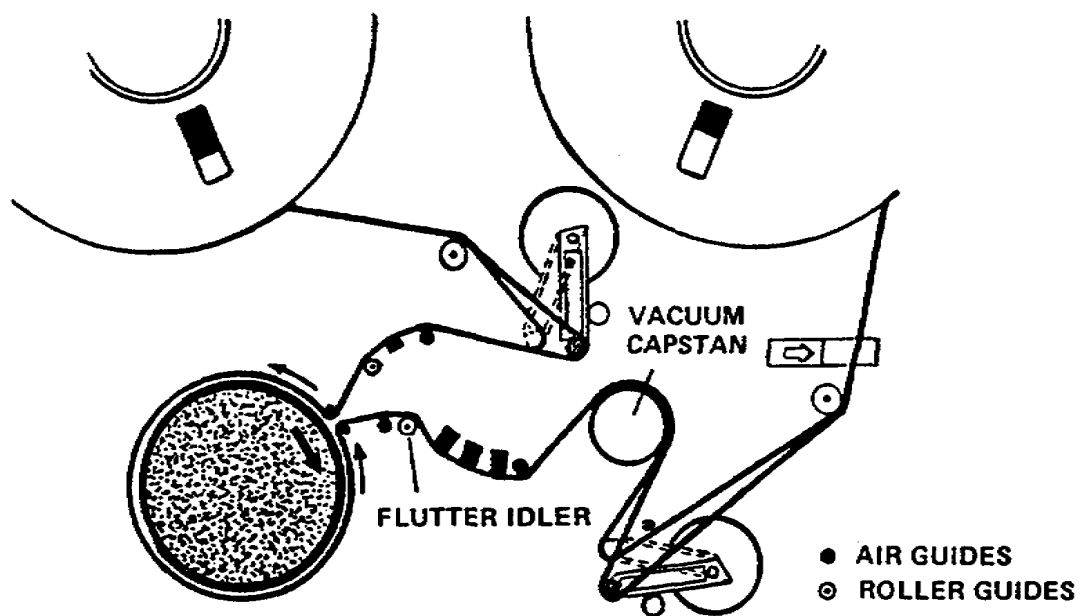

Figure 2-1. Helical scan, tape transport
1. The tape is transported from supply reel to takeup reel at a fixed rate of speed, determined by the capstan drive speed. This speed will also vary between different pieces of equipment. On the transport, the tape is held closely in alignment by guide rollers (cone-shaped or inverted cones (figs 2-1 and 2-2), or other mechanical devices so that it will not shift vertically during transport.
a. The location of the capstan will vary from manufacturer to manufacturer and therefore, may be located either prior to the tape contacting the head drum assembly, or after the head drum assembly, or both (figs 2-1 and 2-2). In any case, it will meter the tape past the head drum assembly.
(1) The combination of the capstan and the reel drive holdback tension works together in a designed electromechanical combination to maintain proper tension on the tape to keep the tape taut against the head drum assembly and in good physical contact with the rotating video head.
(2) Both the takeup torque adjustments and holdback tension adjustments require checking. The exact amount of these adjustments will be peculiar to specific machines.